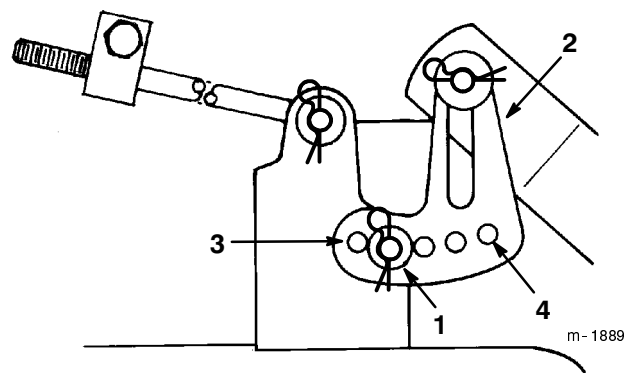

Figure 48
4. Remove the hair pin cotter and washer from the leveling bracket (Fig. 48). To level the blade(s), reposition the leveling bracket in a different hole and install the washer and hair pin cotter (Fig. 48). A front hole lowers the blade height and a rear hole raises its height. Repeat this procedure on the opposite side.